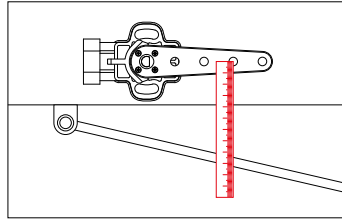

Fig. 26: Sesnor arm length
1. Place the suspension in the middle position of the entire travel range using a transmission jack, and set the sensor arm to the middle position of its working range. Now measure the distance [D] between the chosen mounting hole and the mounting point of the link rod (Fig. 26).